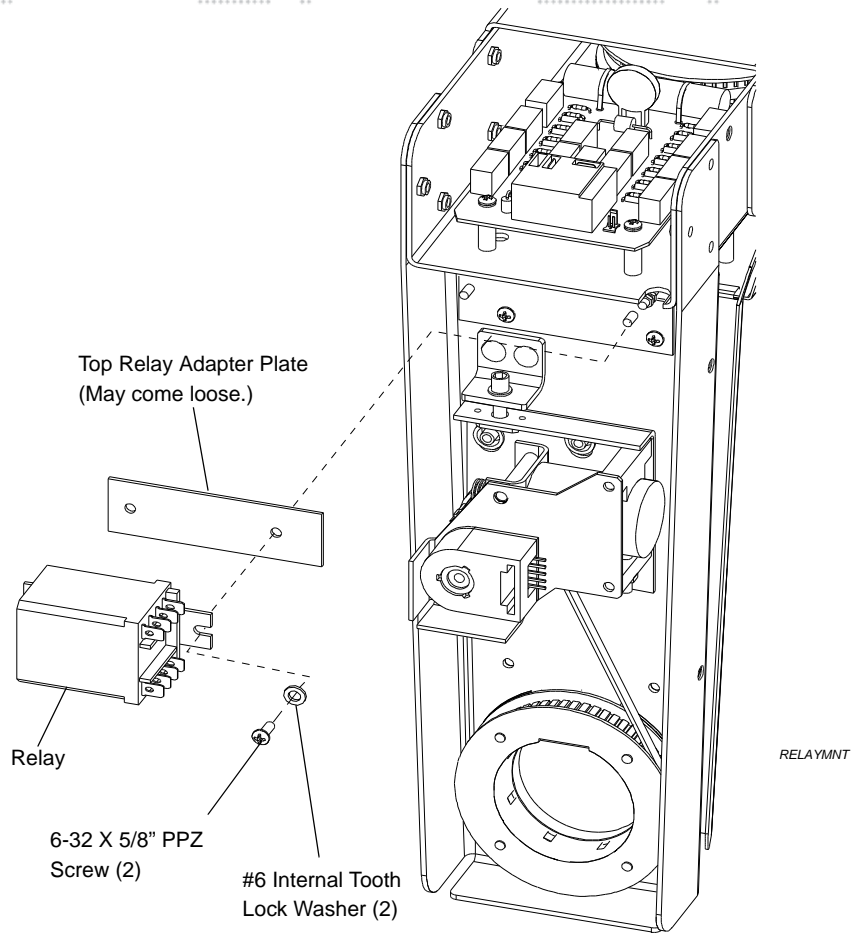

Figure 2-35: VL5Arc Relay Replacement
Step 5. At relay, using #2 Phillips screwdriver, remove two 6-32 X 5/8" PPZ screws and two #6 lock washers securing relay and top relay adapter plate to bottom relay adapter plate, and remove relay and top adapter plate. Retain top relay adapter plate for reuse when installing replacement relay. **Figure 2-35.**